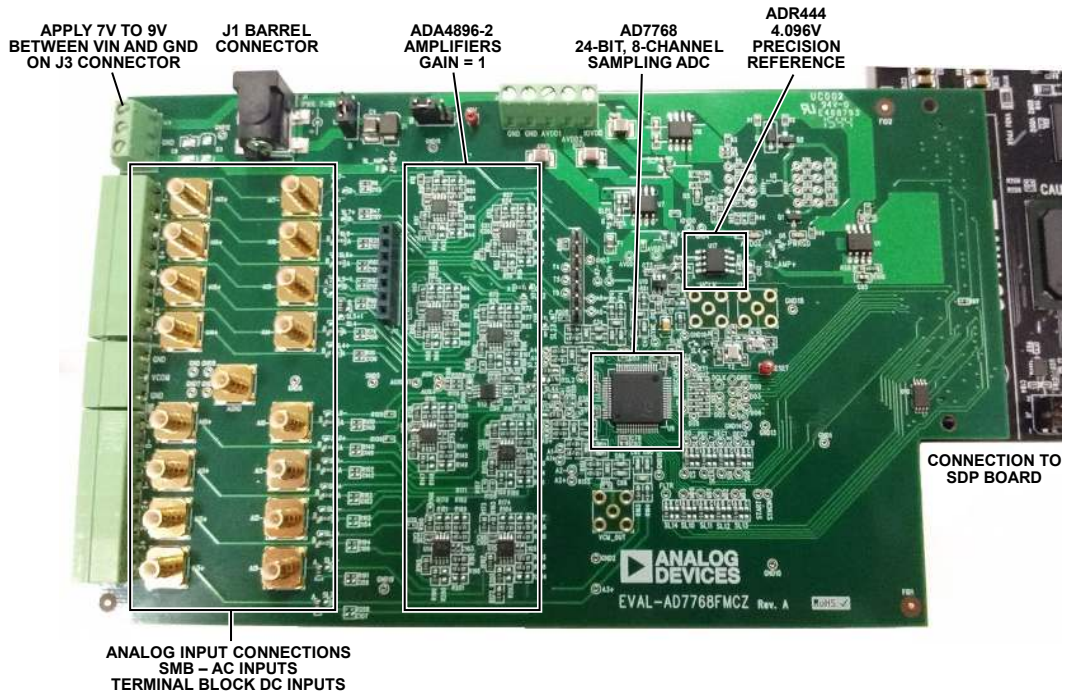

Figure 1. EVAL-AD7768FMCZ Evaluation Board
2. Connect the EVAL-SDP-CH1Z board to the EVAL-AD7768FMCZ board (unpowered). Figure 1 illustrates the connection: J4 of the EVAL-SDP-CH1Z board adapts to the receiving socket on the EVAL-AD7768FMCZ printed circuit board (PCB).
As shown in Figure 1, the AIN0± to AIN7± analog inputs are accessible through either the SMBs or the terminal blocks.